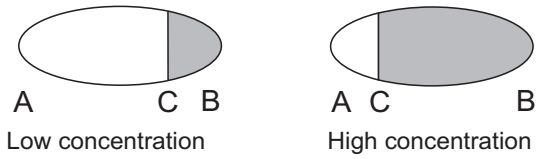

Figure 10.2 Optical images
The refractive index n_D changes with the process solution concentration and temperature. For most solutions the refractive index increases when the concentration increases. At higher temperatures the refractive index is smaller than at lower temperatures. From this follows that the optical image changes with the process solution concentration as shown in Figure 10.2. The color of the solution, gas bubbles or undissolved particles do not affect the position of the shadow edge (C).